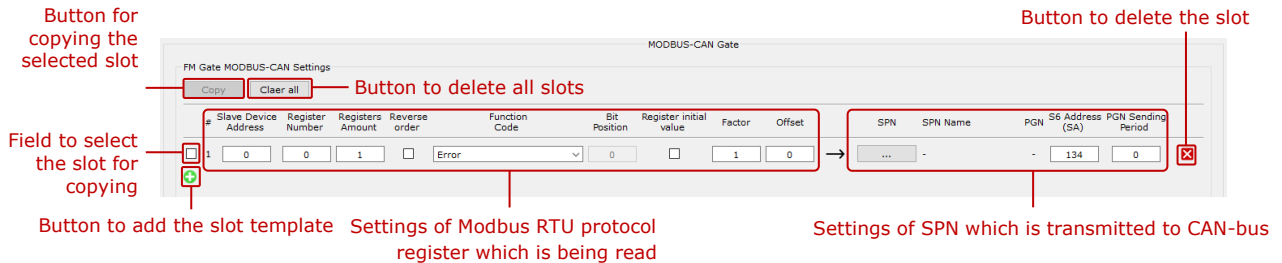

Figure 21 – Slot template for conversion of data from Modbus RTU registers into SPN
1) In the left portion of the slot template (before \rightarrow character) there are settings of Modbus RTU protocol registers that are read by the converter (see figure 21):
2) In the right portion of each slot (after the character →) there are settings of SPN in which the converted data will be transferred into CAN interface (see figure 21):